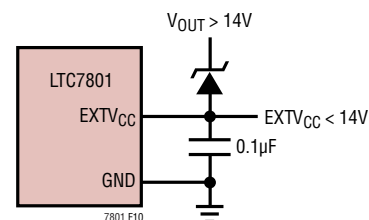

Figure 10. Using a Zener Diode Between  $V_{OUT}$  and  $EXTV_{CC}$
4.  $EXTV_{CC}$  connected to the regulator output through an external zener diode. If the output voltage is greater than 14V, a zener diode can be used to drop the necessary voltage between  $V_{OUT}$  and  $EXTV_{CC}$  such that  $EXTV_{CC}$  remains below 14V (Figure 10). In this configuration, a bypass capacitor on  $EXTV_{CC}$  of at least 0.1 $\mu\text{F}$  is recommended. An optional resistor between  $EXTV_{CC}$  and  $GND$  can be inserted to ensure adequate bias current through the zener diode.